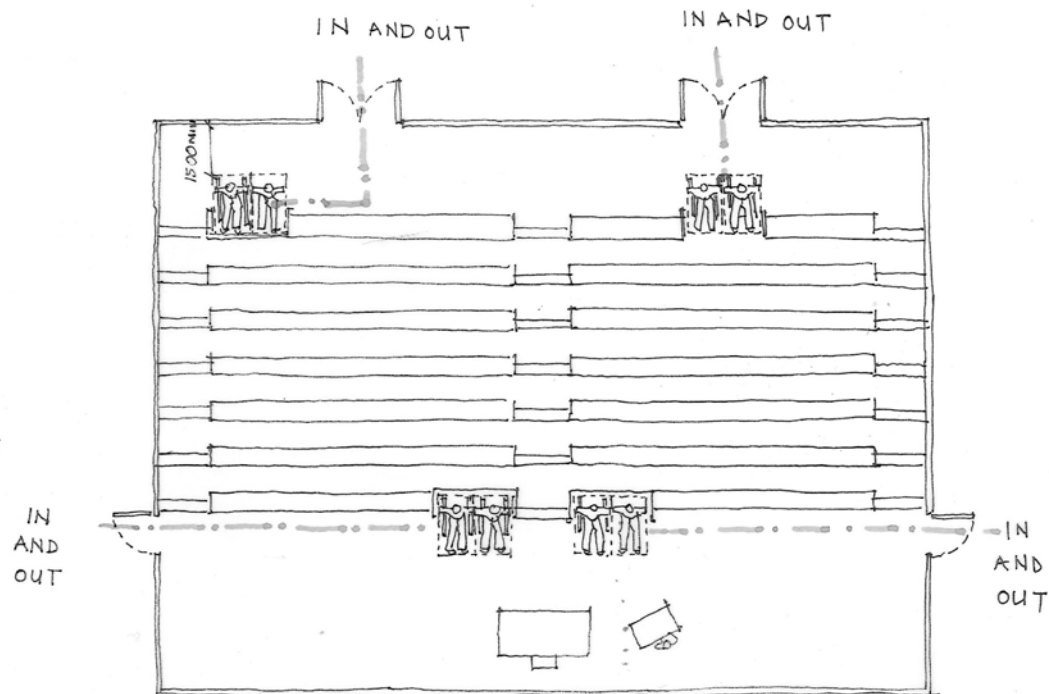

Fig 015 – PLAN VIEW – wheelchair space in Auditorium
5. Consideration for fire exit for these conditions must be made. See fig 015 , 016, 017	4. The wheelchair spaces should be located that the wheelchair user may have the choice of sitting with another wheelchair user or conventional seated companion